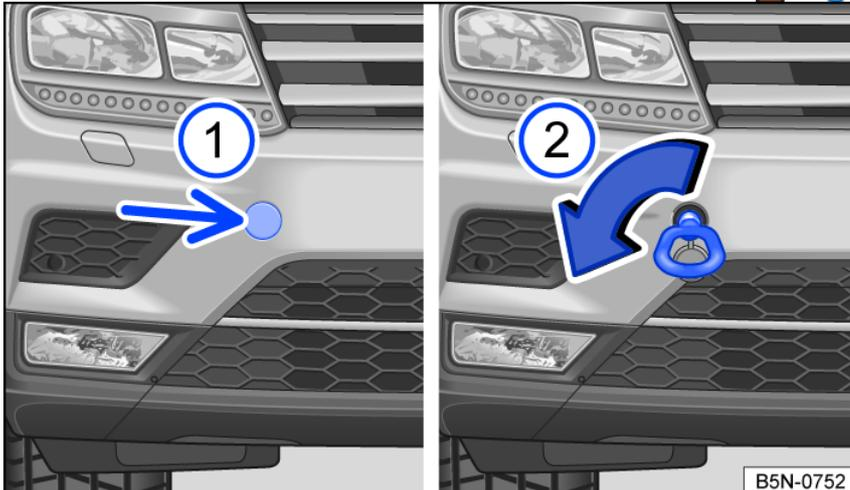

Fig. 188 In the right front bumper: towing eye.
- Press on the corresponding part of the cover (arrow) to release the lock on the cover fig. 188 ①.
- Rotate the towing eye **counterclockwise** as far as possible to install it in the mount fig. 188 ② → ①. Use a suitable object to tighten the towing eye completely and securely in the mount.